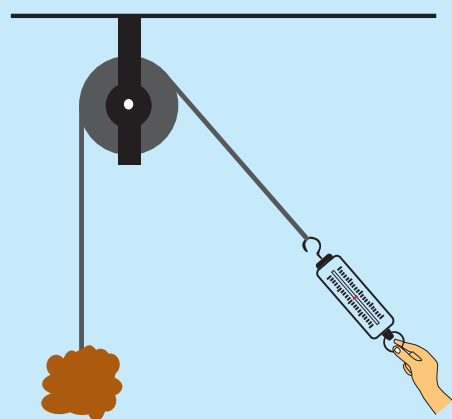

Figure 15.23
- Now tie the string to the stone and pull it over the pulley using the Newton spring balance as shown in the figure 15.23. Note down the reading of the balance.